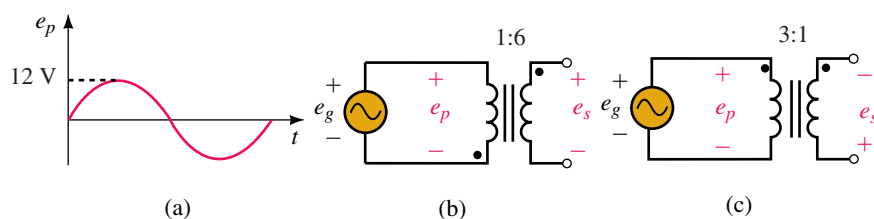

FIGURE 24–14
1. Determine the equation for e_s in the circuit of Figure 24–14(b).
- Repeat Problem 1 for Figure 24–14(c).
- If $\mathbf{E}_g = 120 \text{ V} \angle 30^\circ$, determine $\mathbf{E}_s$ for each transformer of Figure 24–14.
- Where do the dots go on the transformers of Figure 24–7?